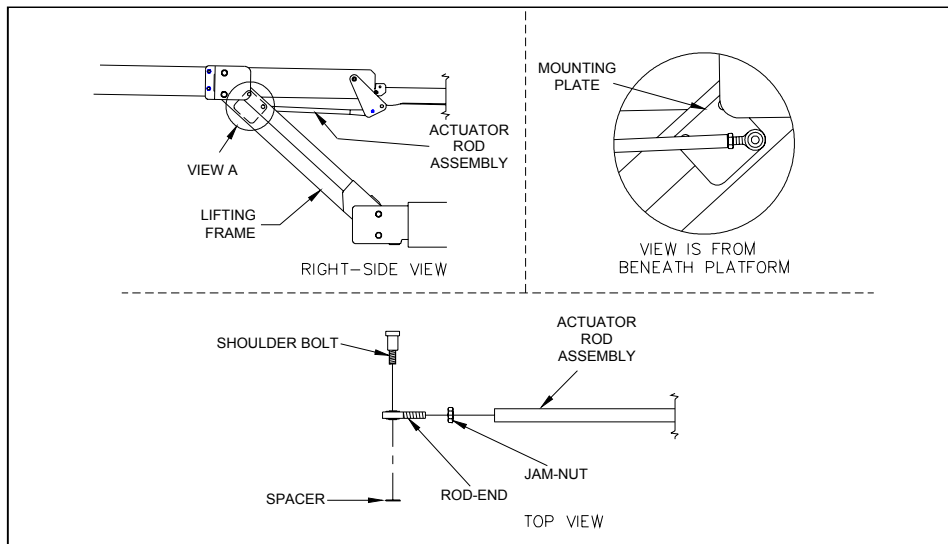

FIGURE 2-2: BRIDGEPLATE ACTUATOR ROD ASSEMBLY
- Refer to **Figure 2-2**. Locate rod-end portion of actuator rod assembly at right-side of platform (between junction of lifting frame and platform). Loosen rod-end jam-nut.